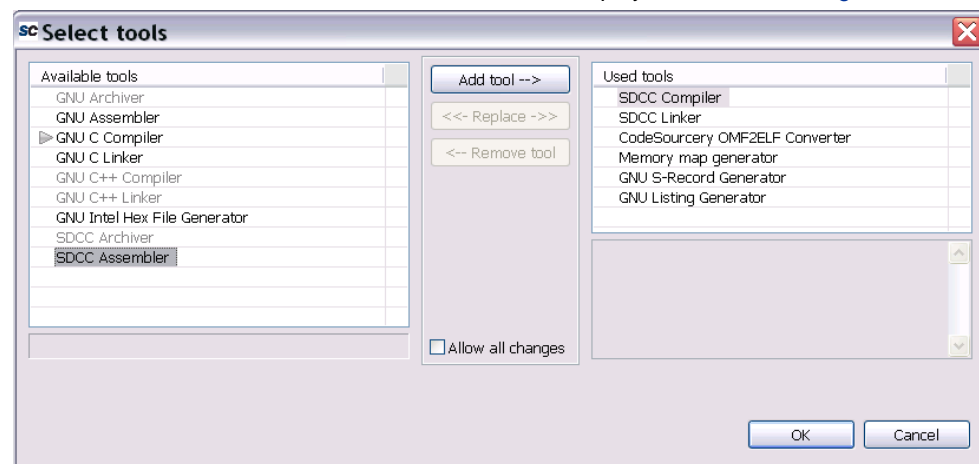

Figure 31 Select Tools Window
4. Click **Select Tools**. The Select tools window is displayed, as shown in Figure 31.